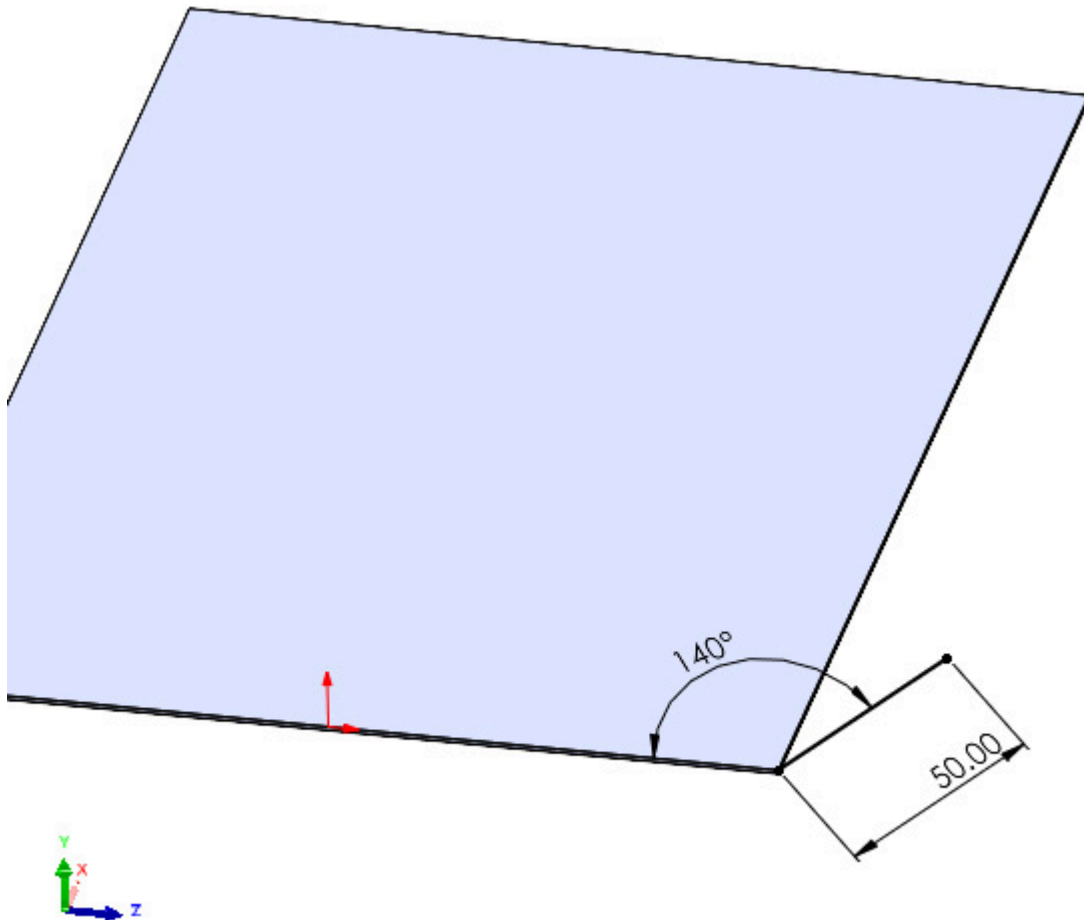

Figure 3.12: Editing the line so that it is no longer vertical
3. Use **Smart Dimension** to add an angle to the line and make it **140°** from the horizontal, as illustrated in *Figure 3.12*: